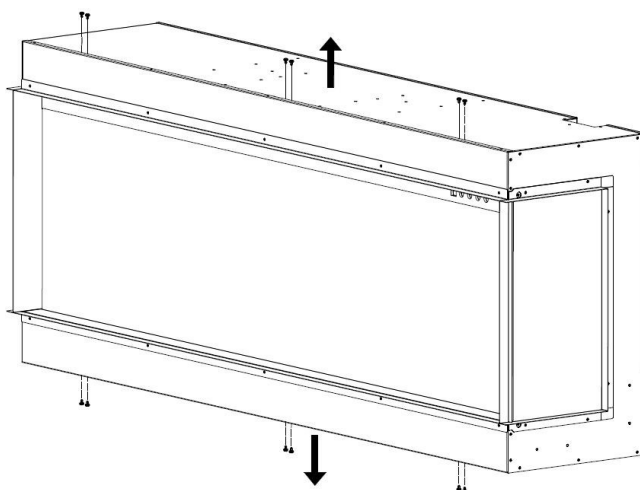

Fig.3-1
4. Remove the screws from the fireplace as shown in the picture below. Fig.3-1